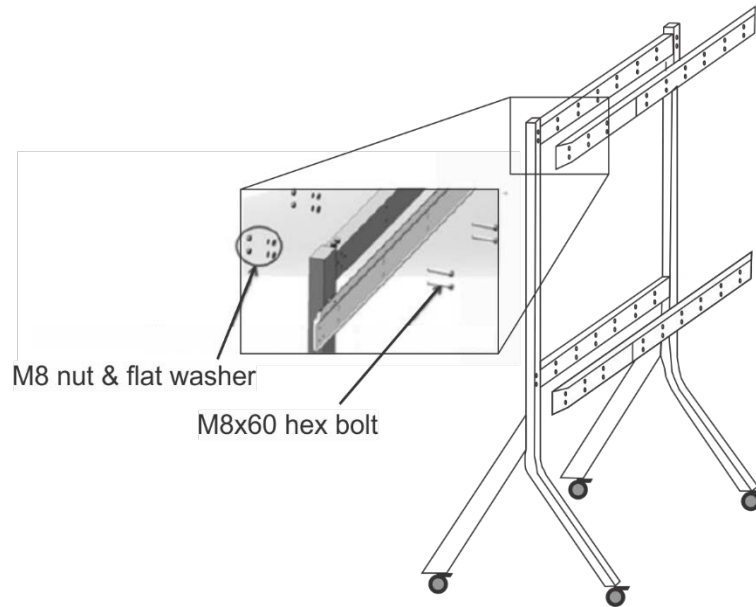

Figure 8
15. Mount the Hanging Bars (upper and lower) to a free-standing or rolling bracket (120" or 150"). Use 16 sets of M8x60 bolts, flat washers and nuts as shown in Figure 8.